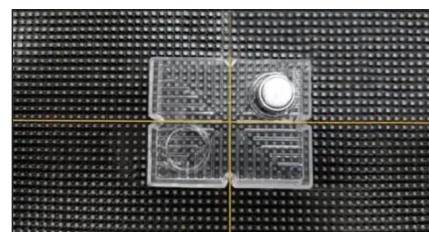

Figure 44: Place Jig
- Place the first supplied jig (Daktronics part number TH-3926637) two rows below the center line (CL) (starting point) on the left side of the display. Align the jig with the corners of the tiles to be adjusted and snap the jig into place on the display face. Refer to **Figure 44**.
Align the jig with the corners of the tiles to be adjusted and snap the jig into place on the display face. Refer to **Figure 44**.